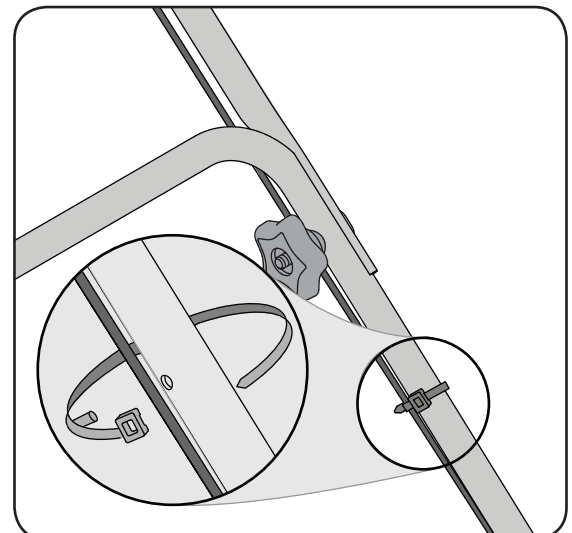

Figure 3-4
4. Insert post on cable ties into holes provided on the lower handle. Pull cable tie tight and trim excess. See Figure 3-4.